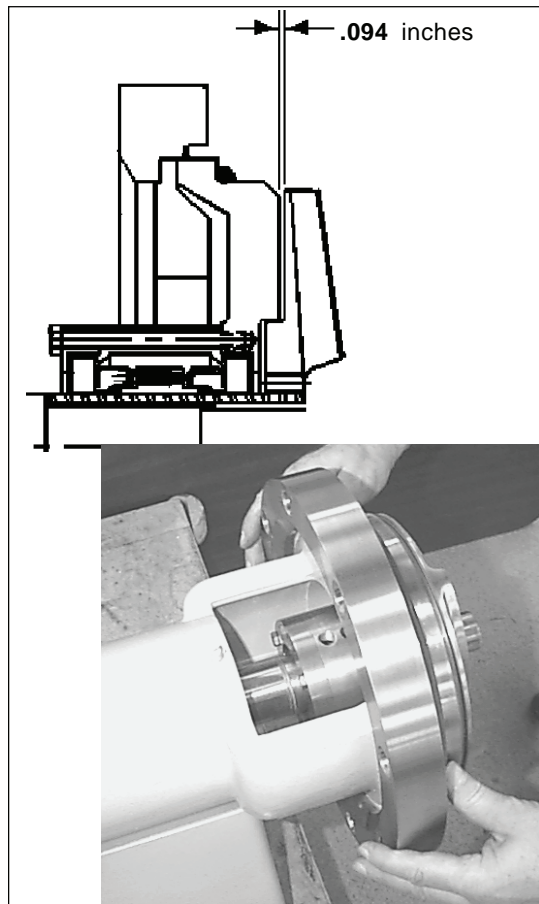
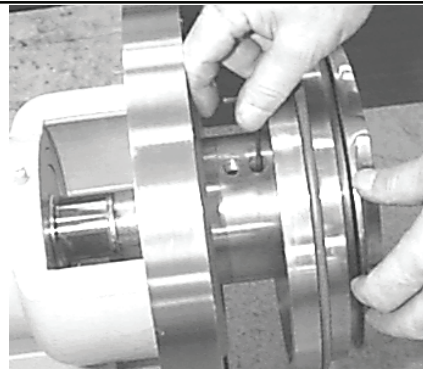

Figure 29
Figure 30
7. Place impeller/backplate assembly onto shaft. Push impeller against backplate. Pull backplate forward and move impeller out to approximately .094". (Figure 29) Tighten set screws in the spring retainer through port in flush housing. Rotate impeller to each of the four setscrews and tighten them securely. Insert plug in port and tighten. See Figure 30)